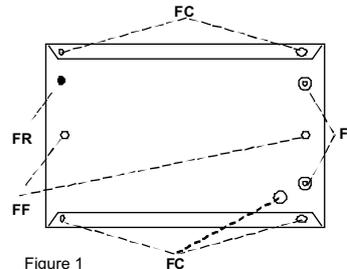

Figure 1
- The two screw holes (FF) can be used to mount the detector to a wall or onto a base (fig.1); the electronic card must first be removed by unscrewing the screw on the bottom right corner. (see par. 13).